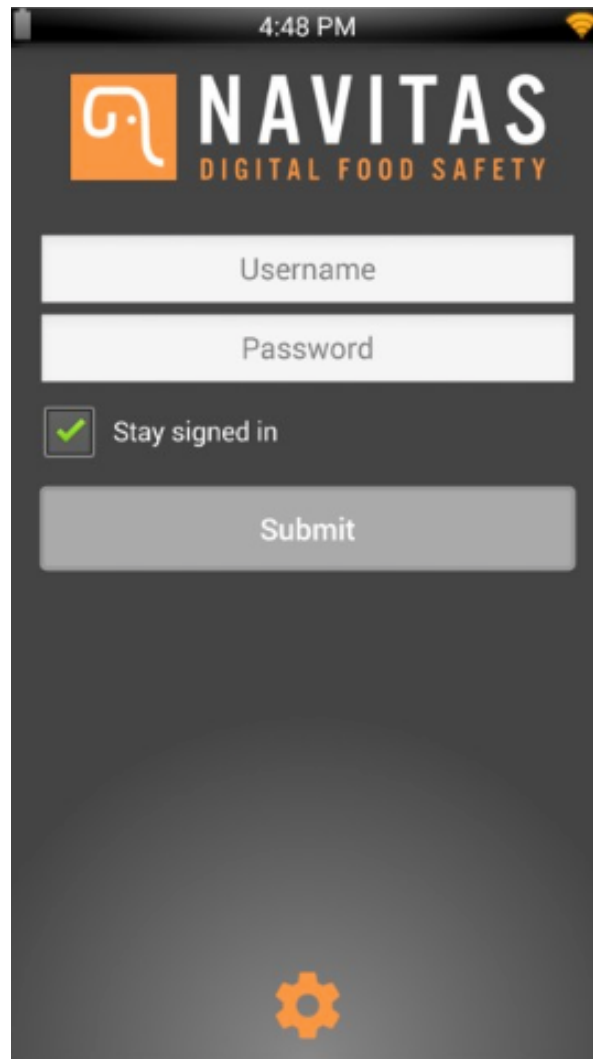

Fig. 32 – Login screen showing gear icon to access settings
1. To access the settings screen, click on the Gear icon from the main login screen (see Fig. 32).